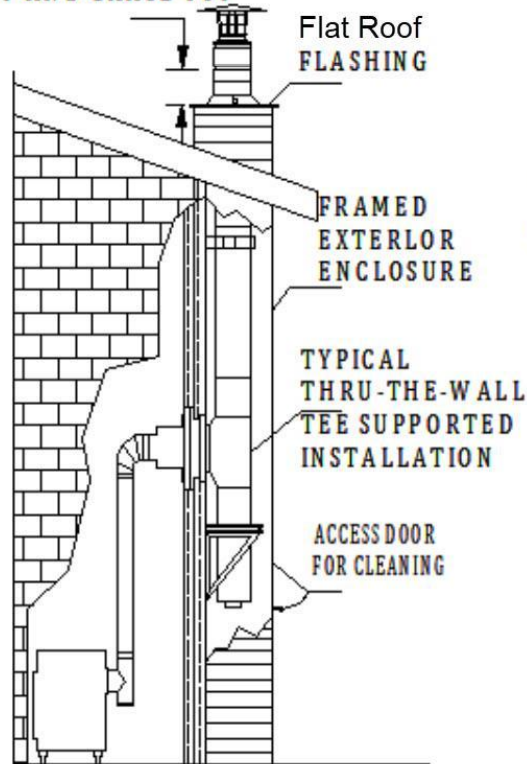

Fig 20
3. **Install Square Ceiling Support Box:** Slip the Square Ceiling Support Box into the framed opening so the square portion projects at least 2 inches below the finished ceiling and rafters, and extends above the ceiling to framing or decking materials that it can be nailed to. Level the Support Box, and slit the corners to the roofline where they extend beyond it. Secure using (3) 8-penny nails, or (3) 1-½" #8 screws, per side (Fig 20).
Tee-supported installations are used when passing through a wall to an outside chimney. The Tee Support can hold a maximum of 52 feet of Class A chimney. The required parts and general configuration are shown in Figures 20 and 21.